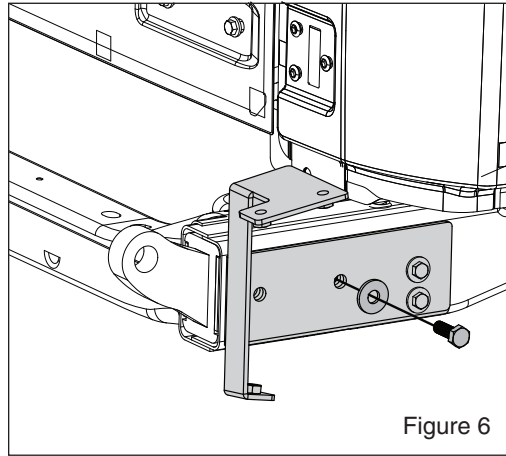

Figure 6
*Insert M12 hex head bolt and M12 small washer to center hole of side bracket using a 19mm socket. Do not tighten at this time. (see FIG6)*